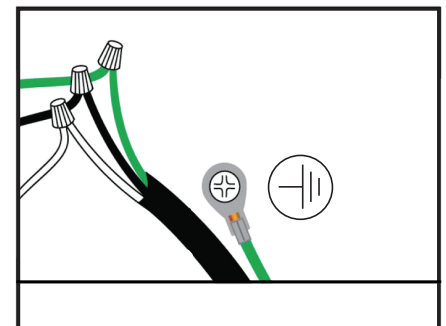

Figure 7
- Connect cable to range hood wiring (see figure 7).